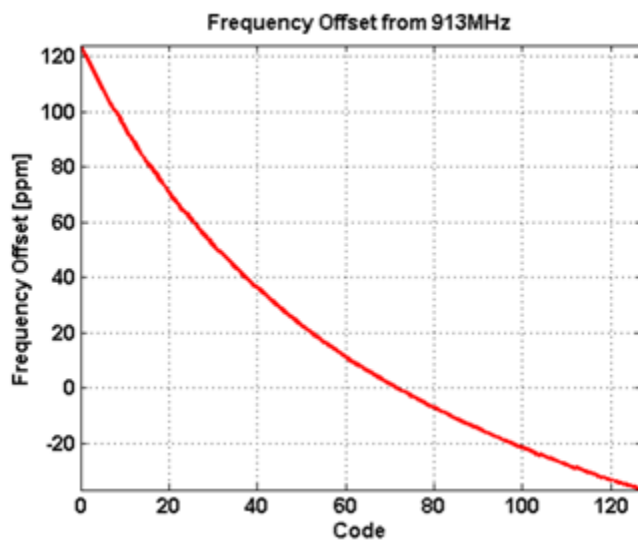

Figure 3. Capacitor Bank Frequency Offset Characteristics
2. Use the crystal frequency adjustment to compensate for crystal production tolerances. The frequency offset characteristics of the capacitor bank are demonstrated in Figure 3. Utilizing the on-chip temperature sensor and suitable control software, the temperature dependency of the crystal can be canceled.